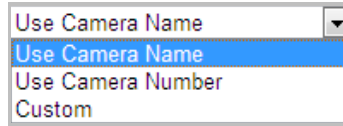

Figure 6-25 Child Directory
- ◆ **Child directory:** It is a sub-folder which can be created in the parent directory. The files will be saved in a sub-folder in FTP server. The name of folder can be defined as shown in following Figure 6-25.